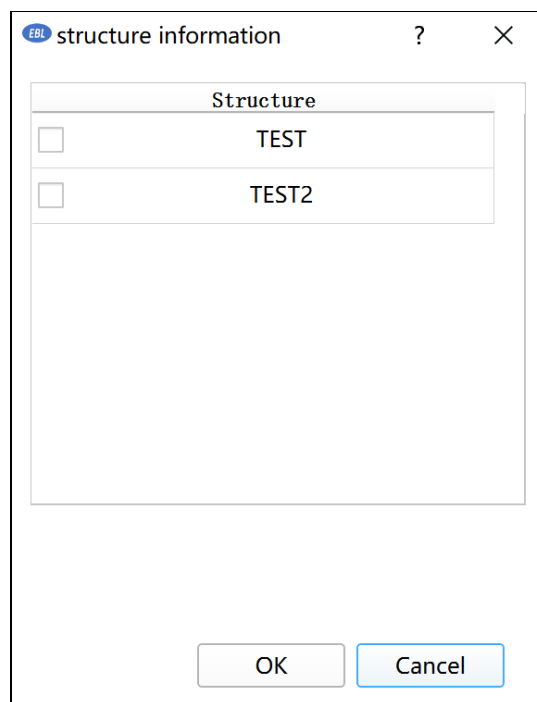

Figure 2.7.5 Select strcuture
- 9) You can click the "Structure" above to select the EPE of any structure (Figure 2.7.5), and the first structure is displayed by default. It is not possible to select multiple structures for display.